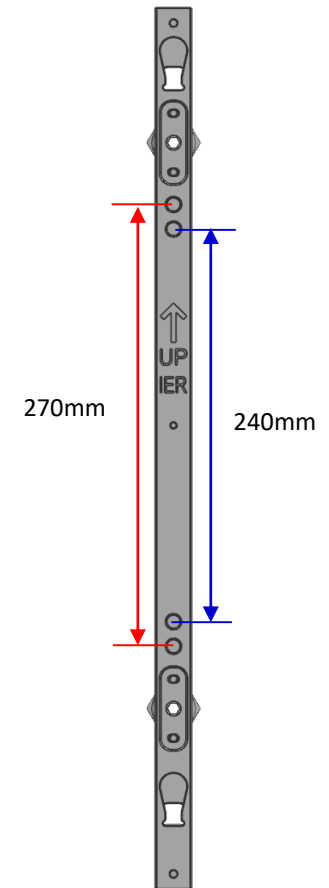

Fig 6. FRAME F JIG HOLE
- 270 mm is used only when IER-Fs are extended (Fig 6).